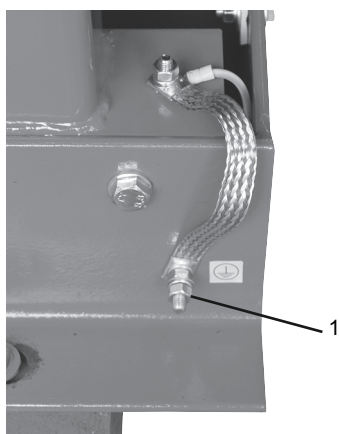

Fig. 25 Earth connection
The pump set must be connected to the main earth connection in the electrical installation. The connection point is located in the right lower corner of the base frame. See fig. 25, pos. 1.